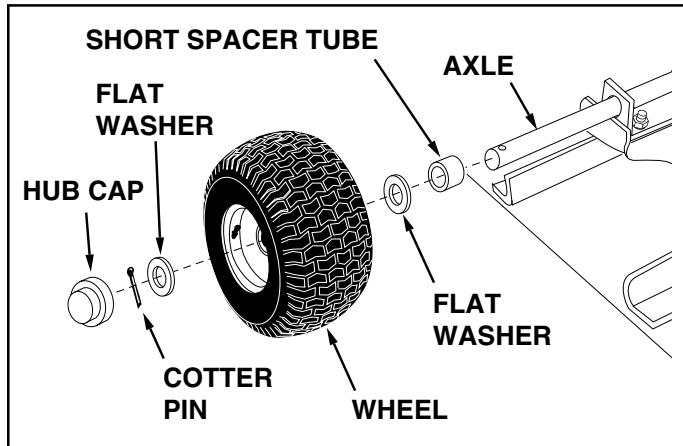

FIGURE 12
20. Assemble a short spacer tube, a 1" flat washer, a wheel (valve stem facing out), and another 1" flat washer onto the axle. Secure with a cotter pin, spreading the ends so that a hub cap can fit over the pin. Assemble the hub cap by pressing it onto the flat washer. Repeat on other end of axle. See figure 12.